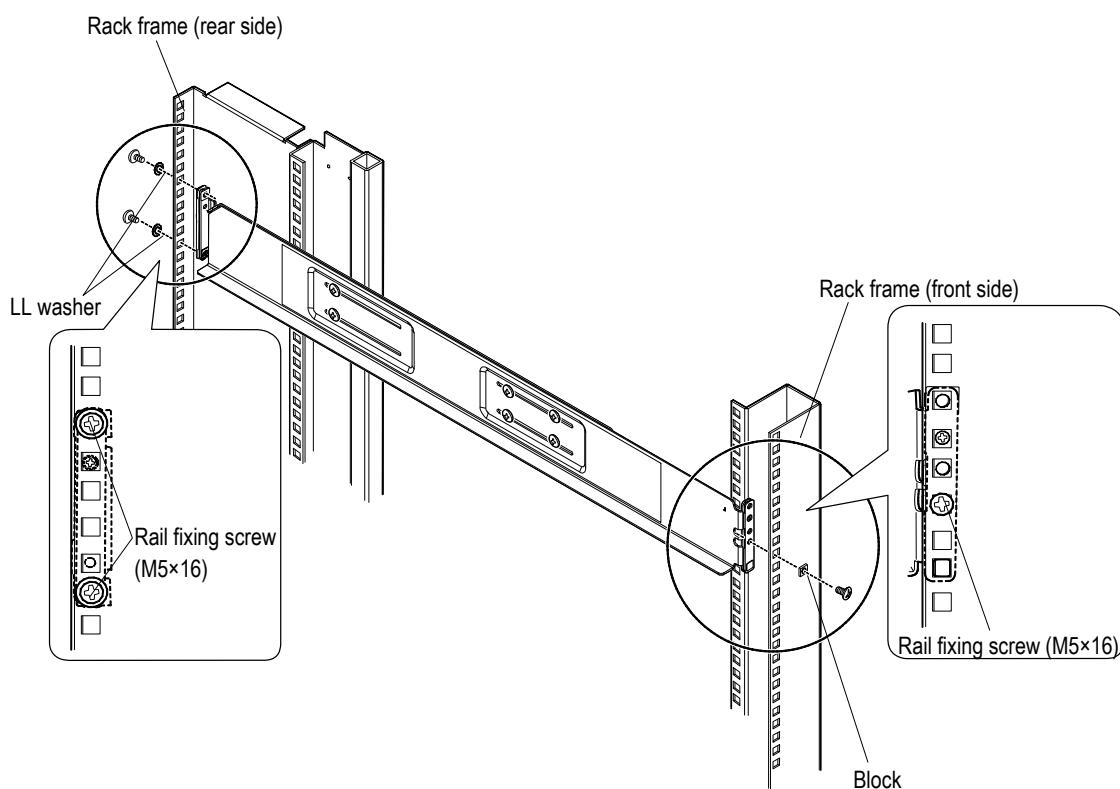

Figure 2.2.21 Installing Rack Rails (Square Hole) for Controller Box (3U)-2
- (vii) Install the front rail (R) in the rack, and then fix it with one screw (M5×16) (See Figure 2.2.21).
- (viii) Install the rear rail in the rack, and then fix it with two screws (M5×16) (See Figure 2.2.21).
- (x) Fix the front rail (L) and the rear rail (L) in the rack frame in the same way following the steps (i) to (ix).